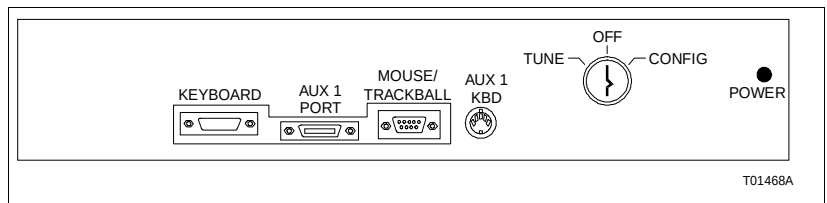
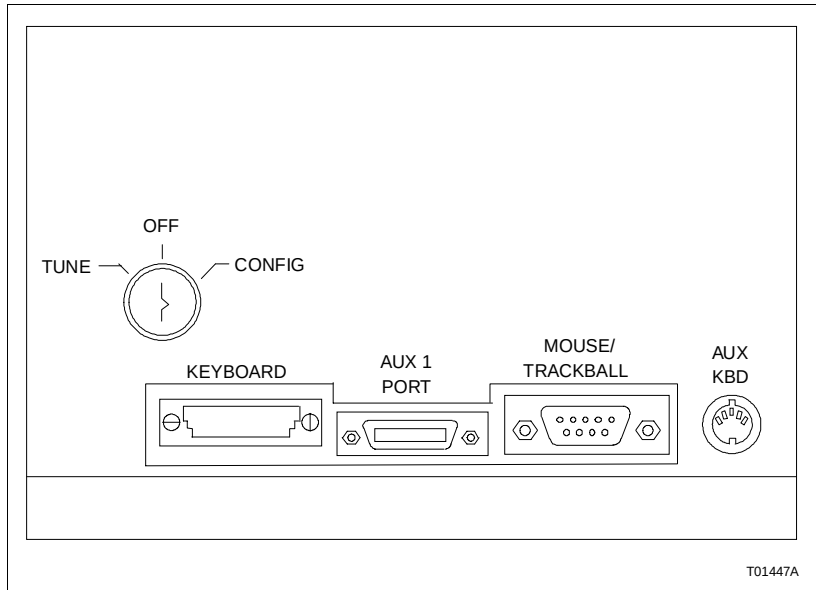
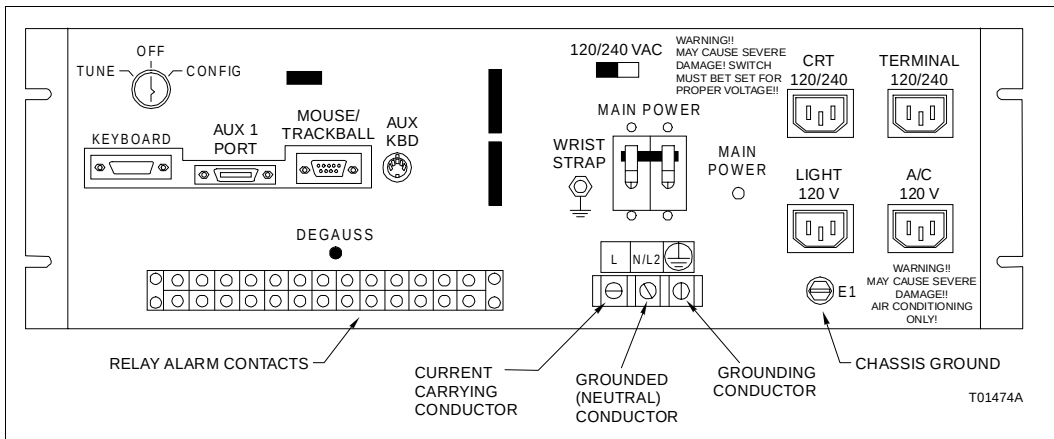

Figure PR28-1. Table Top Model Keyboard Interface Assembly
Figure PR28-2. Console and Panel Mount Model Keyboard Interface Assembly
Figure PR28-3. Environmental Model Keyboard Interface Assembly
- ☐ 1. Unplug the Mylar (operator) keyboard from the port marked KEYBOARD on the keyboard interface assembly. Figure PR28-1 shows the keyboard interface assembly for the table top model, Figure PR28-2 shows the keyboard interface assembly for the console and panel mount models, and Figure PR28-3 shows the keyboard interface assembly for the environmental model. The keyboard interface assembly for the environmental model is part of the PEP.